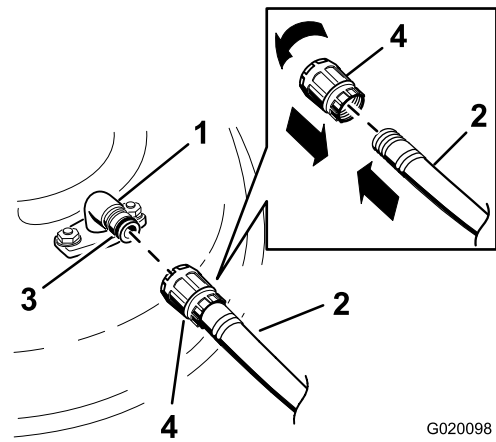

Figure 63
3. Attach the hose coupling to the end of the mower washout fitting, and turn the water on high (Figure 63).